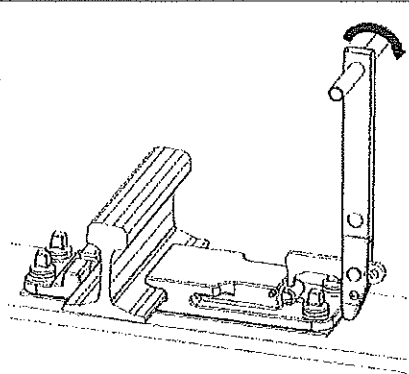

Fig. 51-Removal of spring
- Engage hook of extraction tool into the recess of the iFAST spring. Prop the lower end of the tool on the plate and drive the upper end until the IFAST spring could be removed from the tunnel in the slide chair, Fig. 51. If necessary remove the coach screws.
- 17 Engage hook of extraction tool into the recess of the IFAST spring. Prop the lower end of the tool on the plate and drive the upper end until the IFAST spring could be removed from the tunnel in the slide chair, Fig. 51. If necessary remove the coach screws.